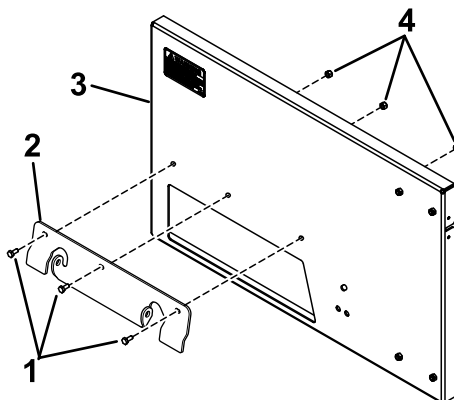

Рисунок 2
2. Install the mounting bracket to the back plate with 3 bolts (1/4 x 5/8 inch) and 3 locknuts (1/4 inch); Рисунок 2.